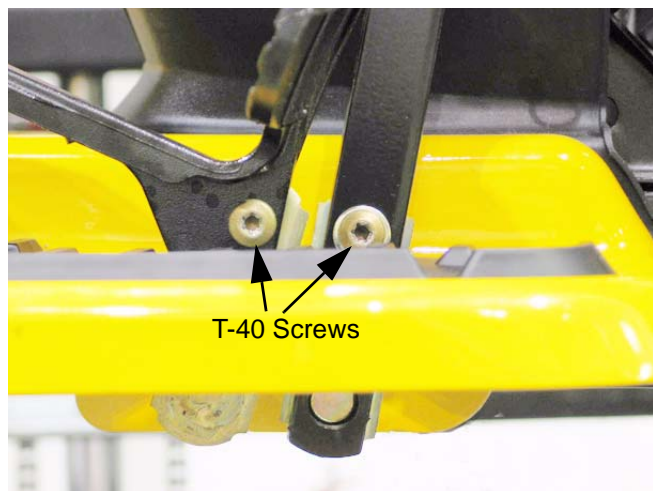

Figure 5.9
- 5.9. Remove the hydro control pedal (or speed control pedal on CVT equipped models) using a T-40 driver. See Figure 5.9.